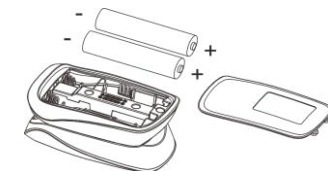

Figure 3. Batteries Installation
- Step 1. Refer to Figure 3. and insert the two AAA in the correct direction.